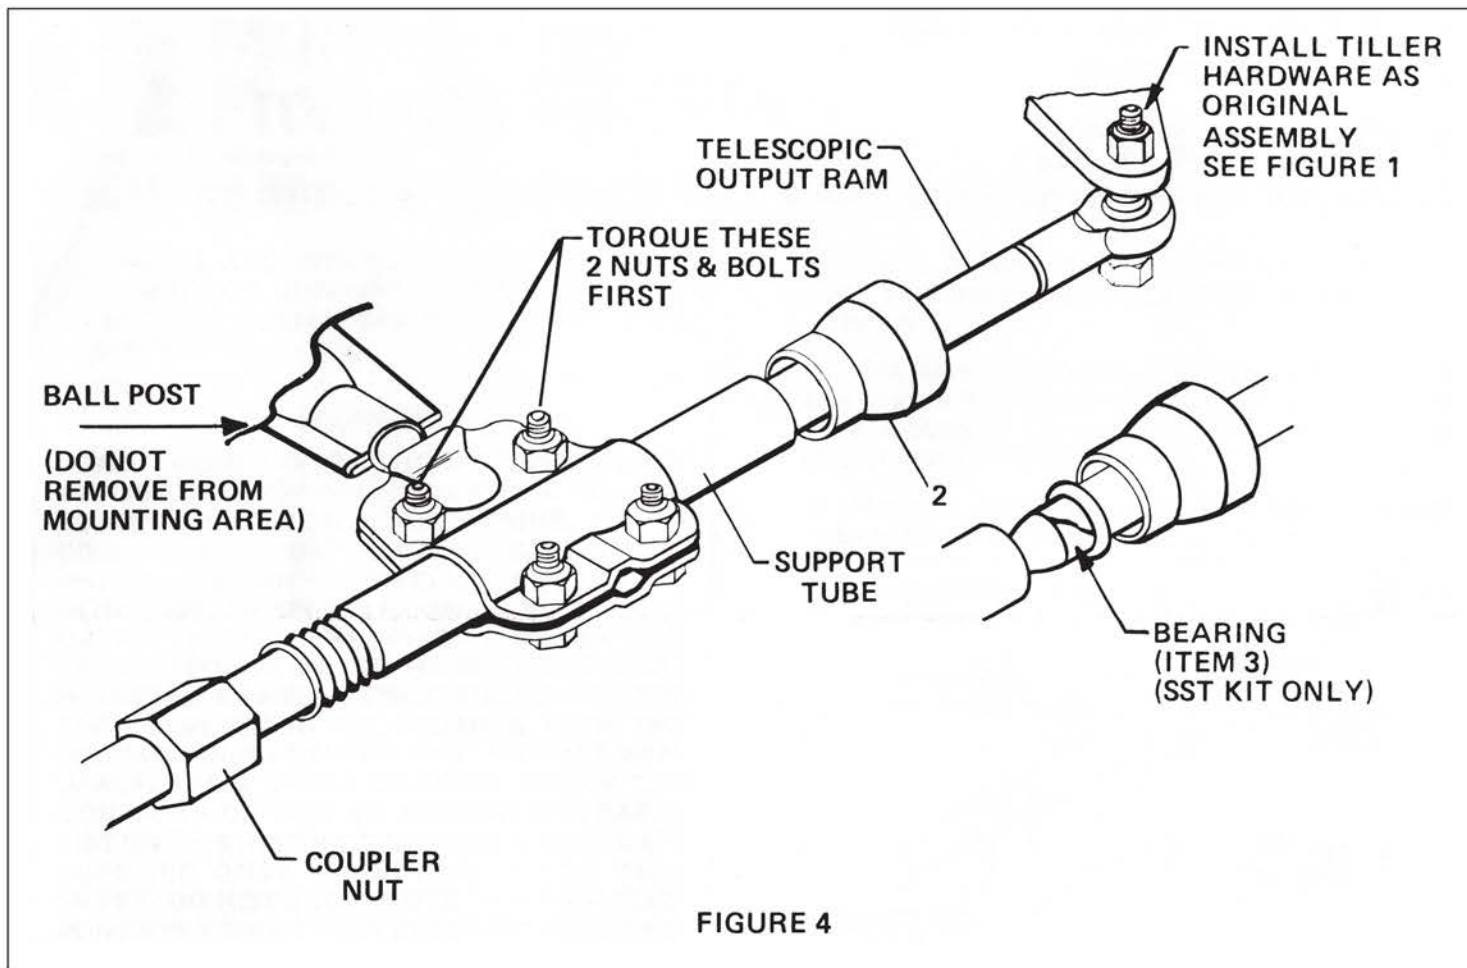

FIGURE 4
1. Apply a thin coat of lightweight waterproof grease to the Telescopic Output ram and insert ram into Support Tube (see Figure 4).